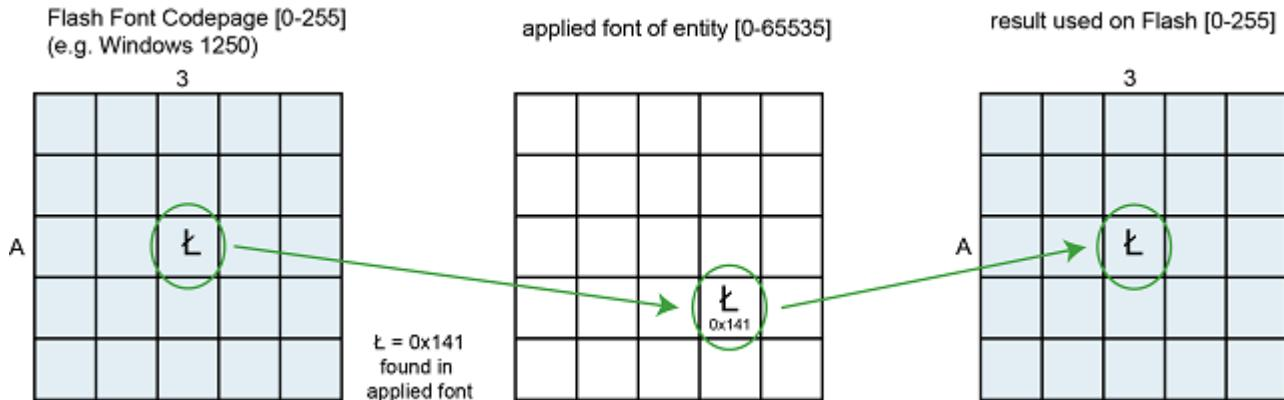

Figure 67: Example for successfully mapping Unicode character 0x141 from Windows-1250 Flash Font Codepage
If a Unicode number of the Flash Font Codepage is found in the applied font of the entity, it is put at the corresponding position in the resulting font on flash (see example in figure 67: ASCII position 0xA3 in the Flash Font Codepage (Windows-1250) is occupied by Unicode character 0x141 (L), this Unicode character is present in the applied font and is thus mapped to ASCII position 0xA3 in flash.).